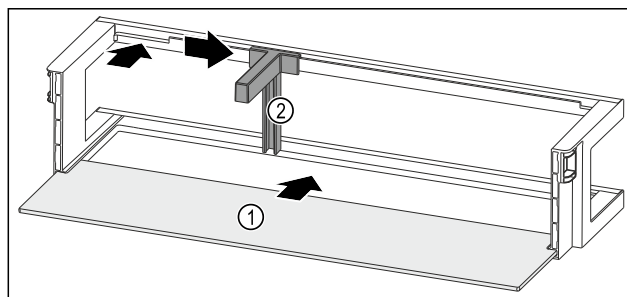

Fig. 252 Door rack with shelf
- Push the shelf Fig. 252 (1) into the side recesses.
- Insert the bottle holder Fig. 252 (2) in the recess.
- Push the bottle holder Fig. 252 (2) to the desired position to the side.